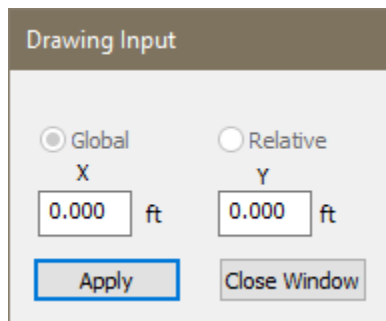

Figure 2-3
- In the **Message Bar** click the *Enter* button. This will bring up the Drawing Input window as shown in **FIGURE 2-3**.